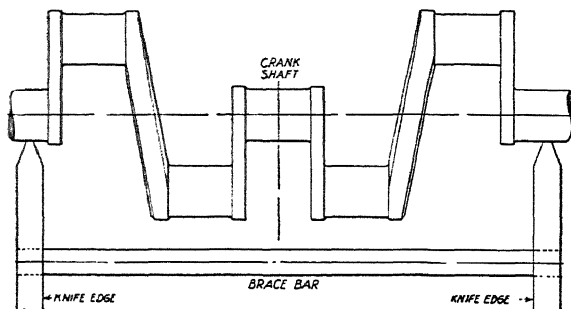

Fig. 1. Static Crankshaft Balance
*Static Balance.* Static balance is the state of balance when the shaft is at rest. When the crankshaft is made so that it will stay in any position in which it may be placed, without moving, it is said to be in perfect balance. After the crankshaft has been machined, the first test for balance is the static test, Fig. 1. A pair of knife edges are made perfectly level in every way and the shaft is